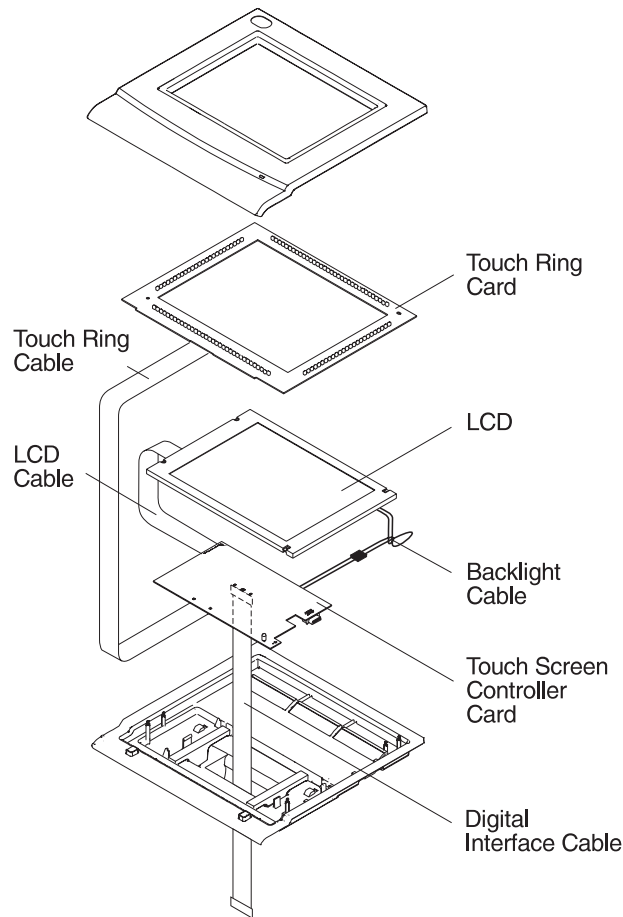

Figure 3-27. Removing the Tablet FRUs
- 2 Disconnect the touch ring cable from the touch ring card. See Figure 3-27.